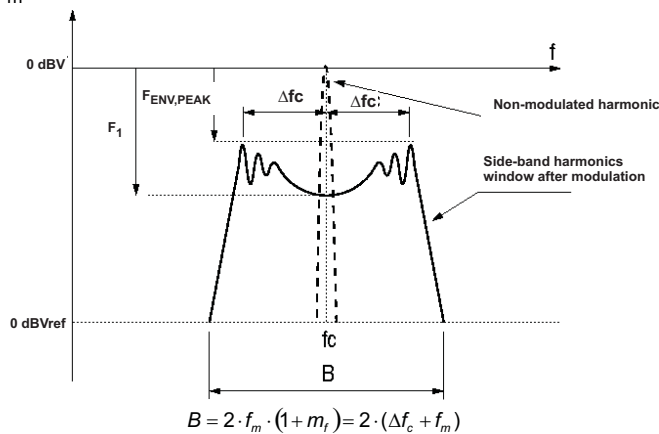
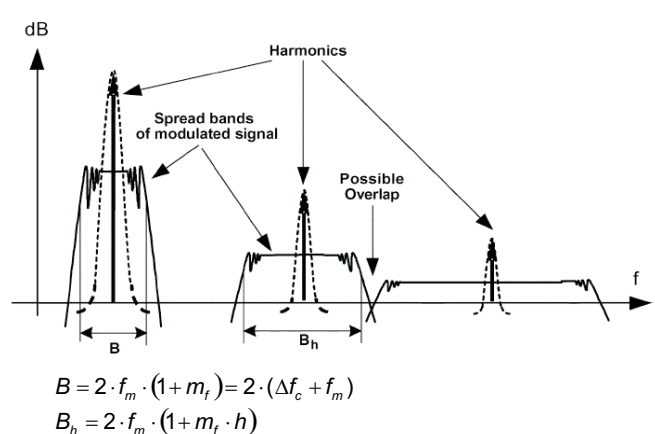

Figure 41. Spectrum of a Frequency Modulated Sin. Wave with Sinusoidal Variation in Time
Figure 42. Spread Bands of Harmonics in Modulated Square Signals ⁽¹⁾
Figure 41 and Figure 42 show that after modulation the sideband harmonic is attenuated when compared to the non-modulated harmonic, and when the harmonic energy is spread into a certain frequency band. The higher the modulation index (m_f) the larger the attenuation.
(1) Spectrum illustrations and formulae (Figure 41 and Figure 42) copyright IEEE TRANSACTIONS ON ELECTROMAGNETIC COMPATIBILITY, VOL. 47, NO.3, AUGUST 2005. See REFERENCES Section for full citation.